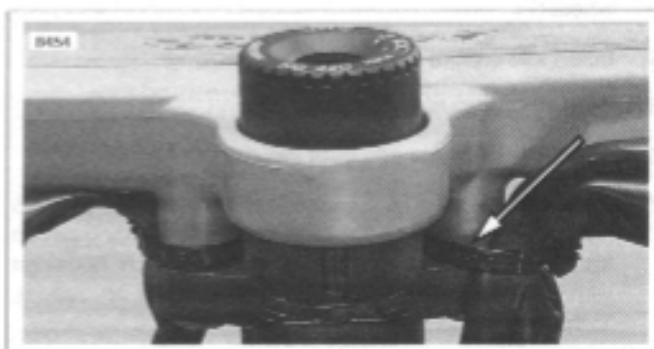

Figure 2-90. Cable Straps On Upper Fork Clamp
8. See Figure 2-90. Cut cable strap from left upper fork clamp.
5. Install clutch hand lever (4) in hand lever clamp (2) and tighten hand lever pinch fastener (3) to 39-48 in-lbs (4-5 Nm).
6. Position hand lever (4) to rider preference and tighten hand lever clamp pivot fastener (1) to 36-60 in-lbs (4-7 Nm).
7. Connect clutch cable ferrule (9) to hand lever clamp (2).
8. See Figure 2-90. Install cable strap holding safety interlock switch and left switch housing on left upper fork. Do not over tighten cable strap.